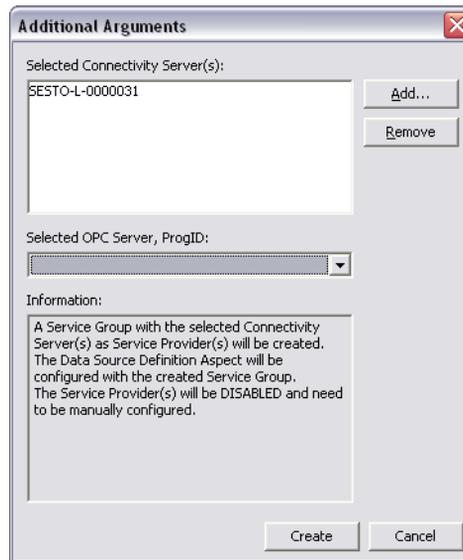

Figure 318. Connection of OPC Server in non-system node.
2. Follow the wizard to select Connectivity Server. See Figure 318. A Service Group with the name SG_Generic OPC Net will be created and a Data Source Definition Aspect will be configured with this Service Group.